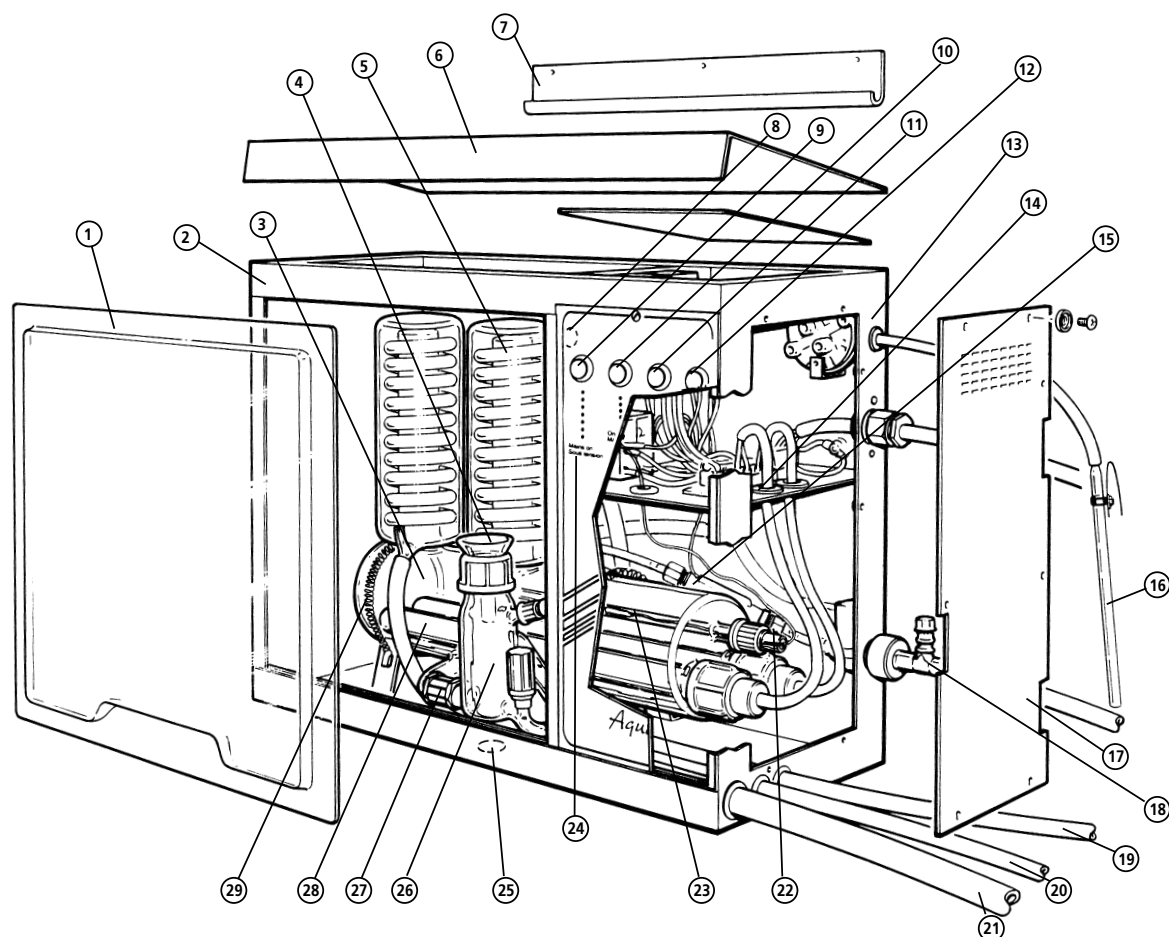

Fig 4: Major component parts A8000
Your Aquatron A8000 has been designed with ease of assembly specifically in mind, but before commencing assembly please study the illustration, fig. 4 on page 6 to familiarise yourself with the general lay-out. During assembly, follow the sequence of instructions and do not connect the mains electricity supply until directed.
- 3 Remove the perspex viewing screen, item 1 fig. 4 by using the finger recess to lift the screen out of the lower cabinet groove, then remove the internal packaging which has protected the glass boiler during transit. Also sever the temporary tie holding the two boiler retaining springs, item 29 in place.
- 4 Remove the cabinet end plate, item 17 by unscrewing the six retaining screws and 'shake proof washers'. Similarly, unscrew the six countersunk screws to remove the cabinet roof.
- 19 Connect the cold water supply to connection 18 fig. 4. Note the tubing selected should have a safe working pressure of at least equal to the pressure of the water supply and should be adequately secured by hose clips.
- the dummy shorting plug is fitted to socket item 8, fig. 4.